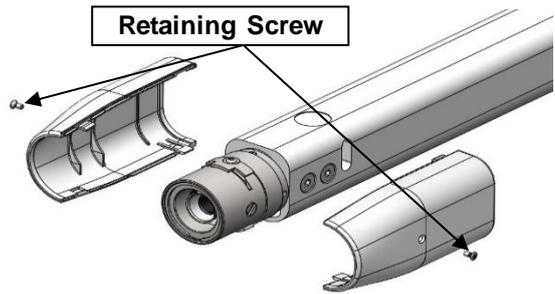

Figure 22
- Remove and retain x2 retaining screws then using a thin screwdriver gently push and disengage the two outer cover halves then remove. See Figure 22.